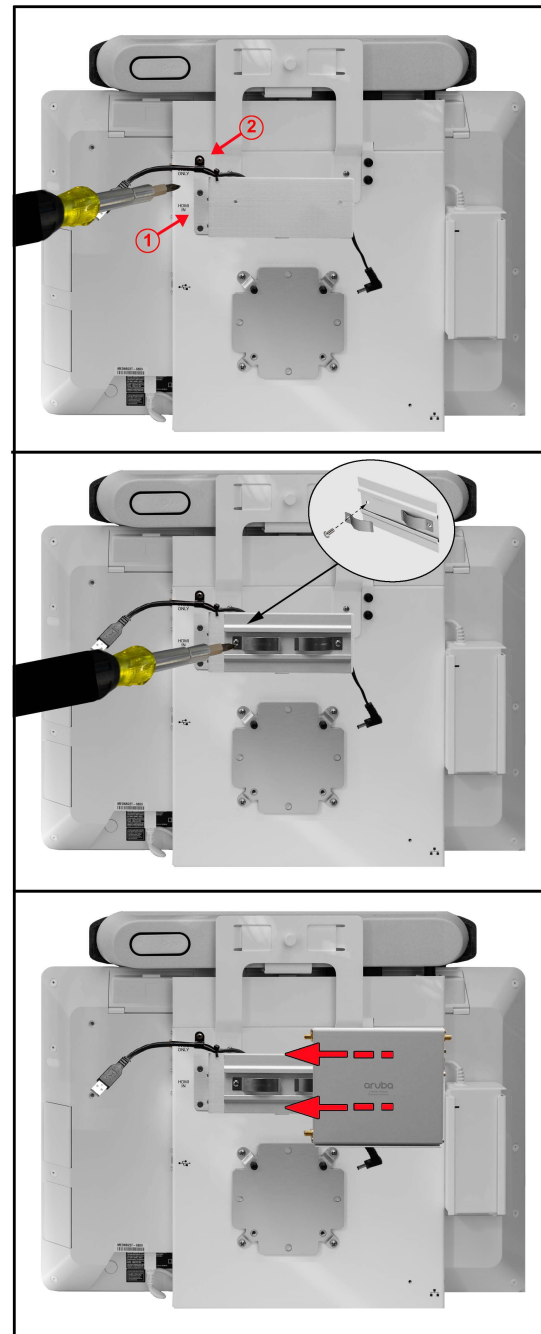

Figure 27. Attaching Aruba 501 to System
3. Attach the Aruba mounting plate to the bracket using the two supplied 6-32 3/8" Pan Head Screws which pass through the Aruba "Spring Clips" as shown in figure 27.